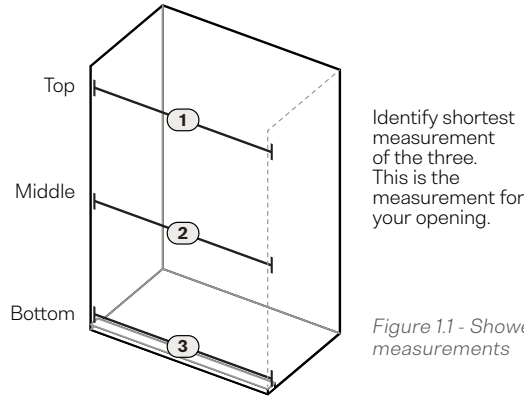

Figure 1.1 - Shower opening measurements
- b. Compare the three measurements and identify the **Shortest Opening Measurement.** This is the only measurement that should be used for sizing confirmation. (Fig. 1.1)